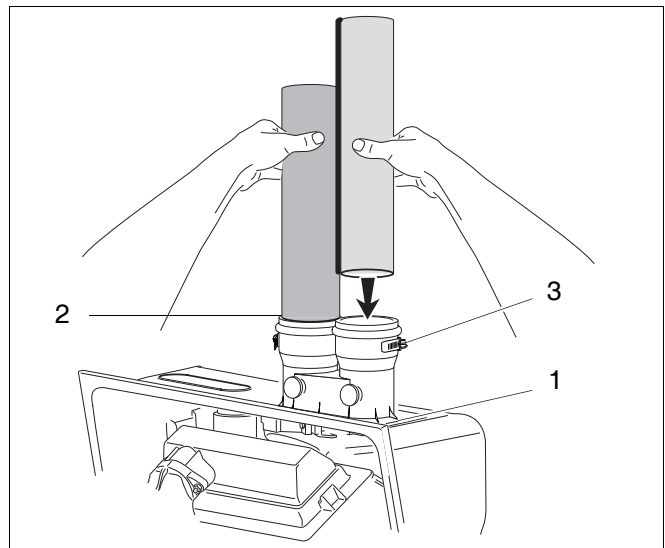

Fig. 16 Vent pipes
All vent pipes must be glued, except for the flue gas adapter (fig. 16, pos. 1) which is screwed into place and the first connection to the flue gas adapter (fig. 16, pos. 2). Installed you can slide the pipe onto the adapter, properly supported and the exhaust pipe must be pitched a minimum of a 1/4 inch per foot back to the boiler. This allows the condensate to drain away. Fix the screws (fig. 16, pos. 3), this is obliged for Canada.